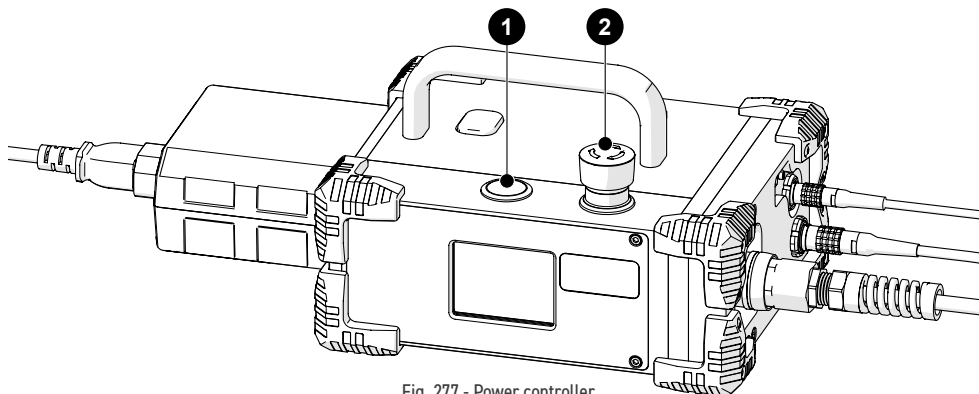

Fig. 277 - Power controller
3. Locate the **2** red off push-button on the power controller. Rotate this button clockwise to unlatch (Fig. 277).
4. The **1** power button (Fig. 277) on the power controller energizes the crawler.